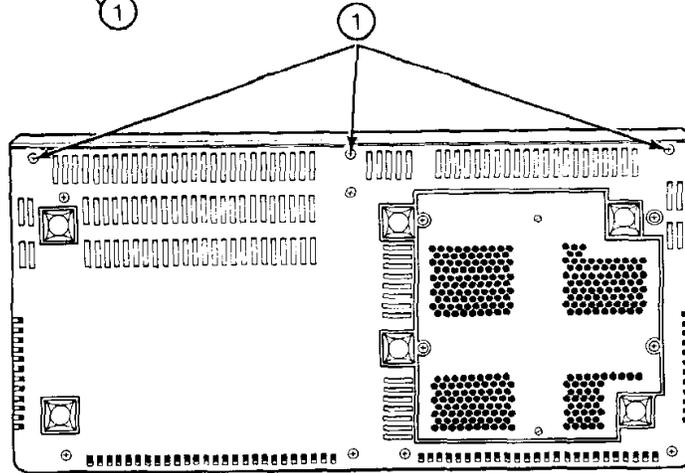

FIGURE 2
3. Remove the three Phillips head screws on the front edge of the bottom of the drive. (Figure 2, Item 1).